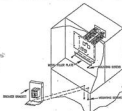

FIG. 1 HB2400 HEATER INSTALLATION
Secure heater into place with screws provided. When installing heaters on HB2400VD size cabinets, use a metal filler plate (provided) to cover exposed cut out (see fig.1)
- i) On HB2400 units mount the circuit breaker bracket on the right side corner of the cabinet shelf. Insert the mounting screws through the blower deck from the blower side of the cabinet (see fig. 1).